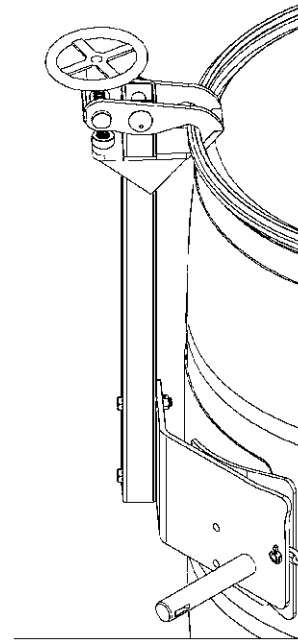

Figure 1
1. Turn hand wheel (item 5) counter clockwise to open top jaw (item 6).
3. Turn hand wheel clockwise until top jaw is pressing tightly against top of drum (see Figure 1).